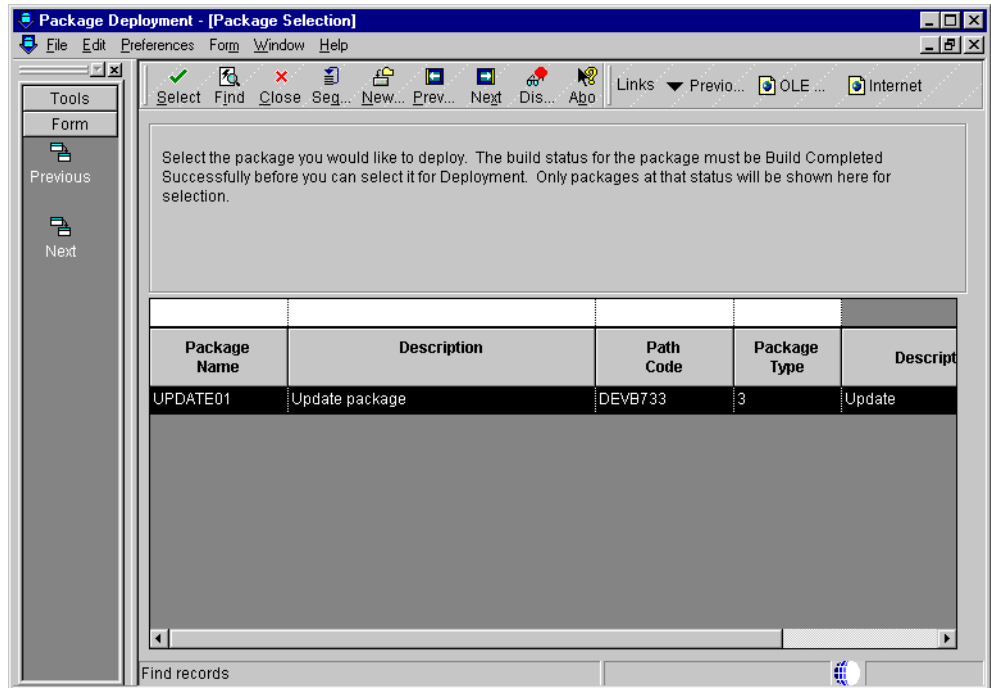

Figure 163. Package Selection
3. Click **Next**. The Package Selection form appears (Figure 163 on page 374).